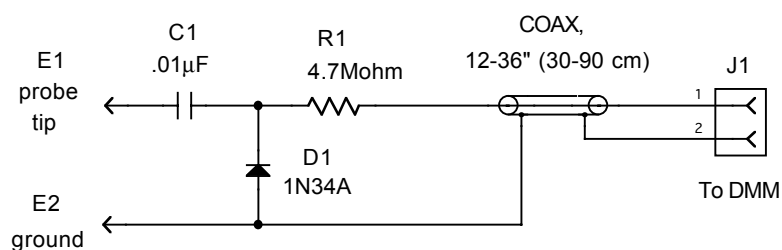

Figure 1
The RF probe shown in Figure 1 converts RF signals to DC so they can be measured using a DMM. The DC readings on your DMM will be approximately equal to the signal voltage in V_{rms} (root-mean-square).
4. If you don't have an RF probe, you can build the one from Figure 1.